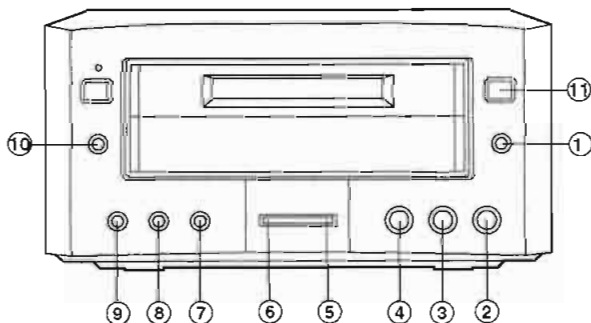
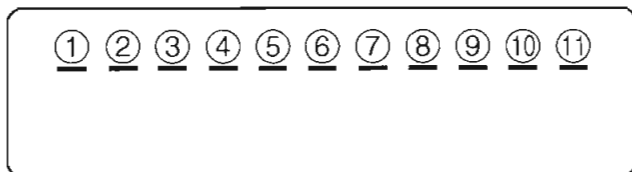

Fig. 7
Fig. 8
2. Press the buttons on the unit except  button, it displays "-" mark adapted each buttons. (Fig. 7 and Fig. 8 is shown about a allotment.)